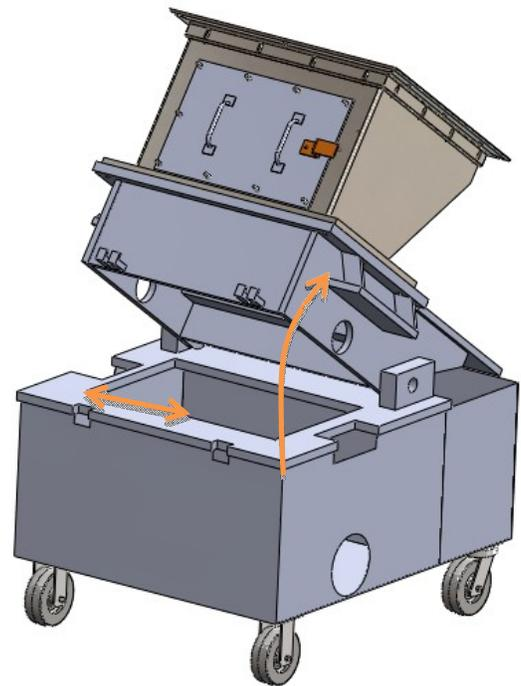

Figure 4
- 5).** Remove the bolts that hold the cutting chamber in place. They are the two swing bolts that pivot located on the front of the machine (See figure 4 on following page).
- 6).** Use the provided machine jack to open up the mid-hopper in order to service the cutting chamber. (See figure 4 on following page). Make sure that the safety clips are locked in place before servicing the machine.
- 8).** Secure cutting chamber using the swing bolts from step 4. (See figure 4 on following page).